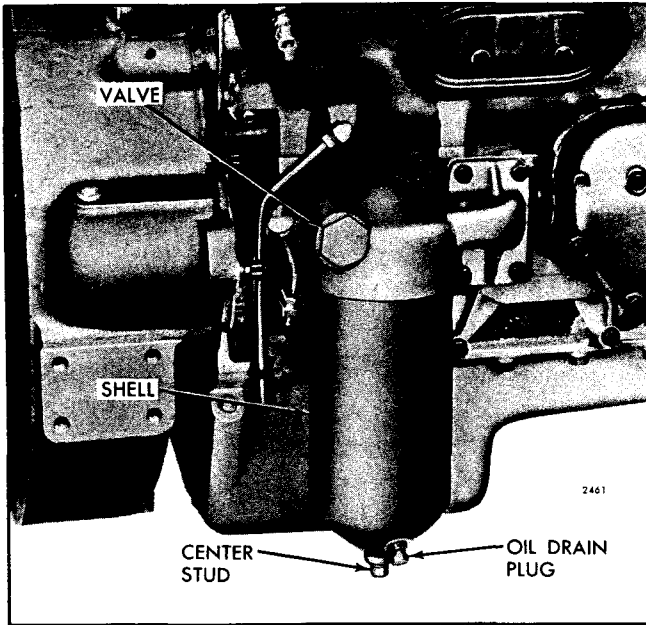

Fig. 16 - Typical Full-Flow Filter Mounting
assembly can be remotely mounted or mounted on the engine as shown in Fig. 16. A by-pass valve, which opens at 15 psi, is located in the filter base to ensure engine lubrication in the event the filter should become plugged.
1. Remove the drain plug and drain the oil (Fig. 16).